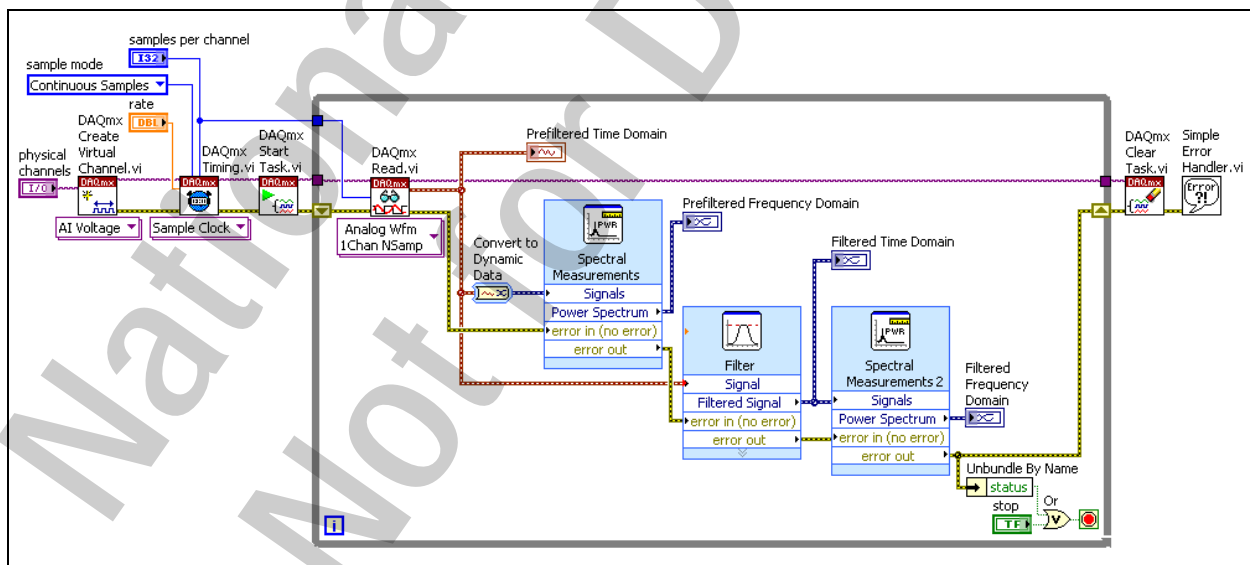

Figure A-7. IIR Digital Filter VI Block Diagram
1. Open a blank VI and build the block diagram shown in Figure A-7 using the following items:
- ☐ Create a copy of the Spectral Measurements Express VI you configured earlier and add it to the block diagram, as shown in Figure A-7.
- ☐ Wire the block diagram as shown in Figure A-7. After the Express VIs are wired together, create the following graph indicators: